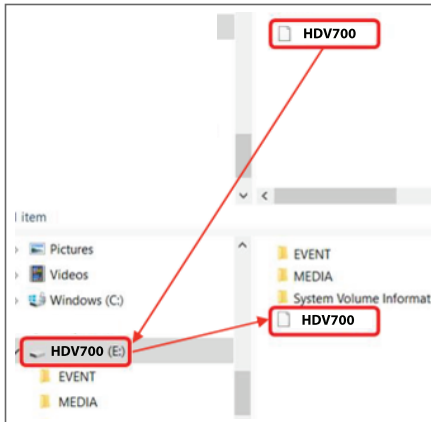

Figure 10.4 Windows PC example: Moving the update file to the HDV700 root directory.
- Drag the downloaded firmware file from your PC to the root (top level) directory of the HDV700 as shown in the Windows example below in Figure 10.4.